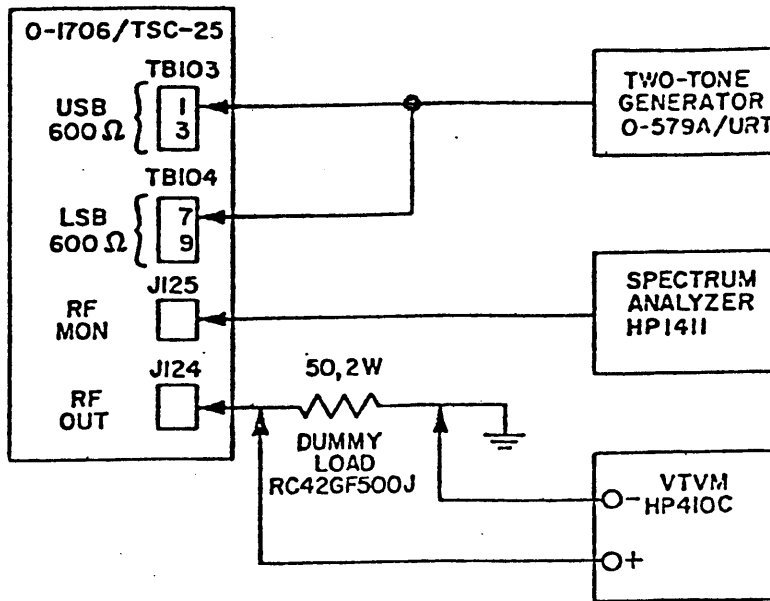

Figure 5-12. Final alignment, test setup.
b. Final Overall Alignment. The final overall alignment of the Exciter entails readjustments to spectrum generator Z101, and comb filters Z102 and Z103; mode level adjustments; and modulation level adjustments. The final alignment should not be attempted until after all individual circuit boards have been adjusted in accordance with the procedures in paragraph 5-5 a. (1) through (14).
(1) Preliminary Steps. Perform the following preliminary steps:
- (g) Connect two tones from generator to both 600-ohm side-band inputs (TB103 and TB104) on rear panel as shown in figure 5-12. Set output for 78 mv rms (-20 dB).
(2) Spectrum Generator Board Z101. Perform final alignment of the spectrum generator as follows:
(5) Modulation Level Adjustments and Check.
- (a) Connect Exciter in test setup as shown in figure 5-12.